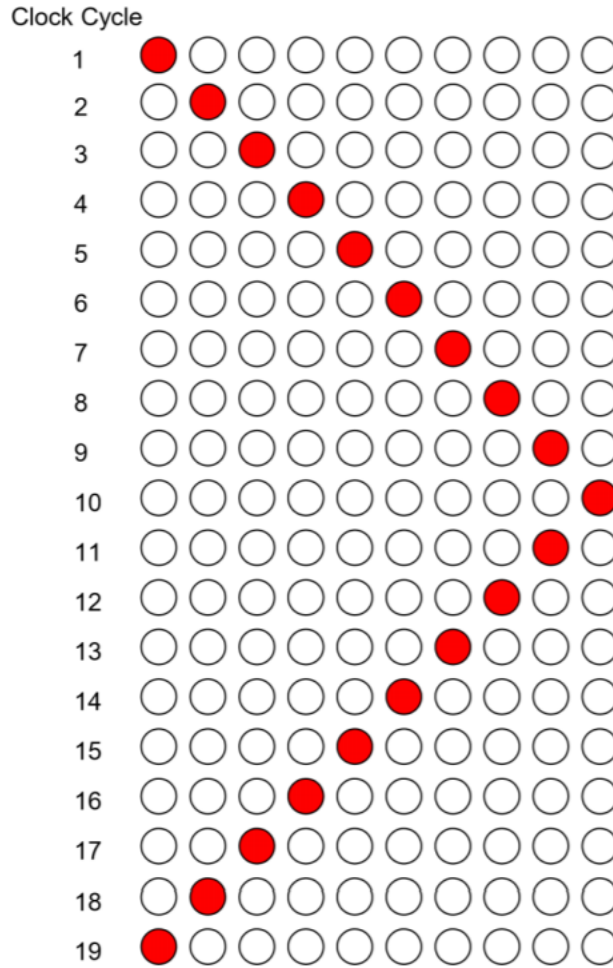

Figure 24: Example of Knight Rider sequence
- ☐ with the LED taking about 1 second to blink all 10 LEDs in one direction. See Figure 24 for the sequence.